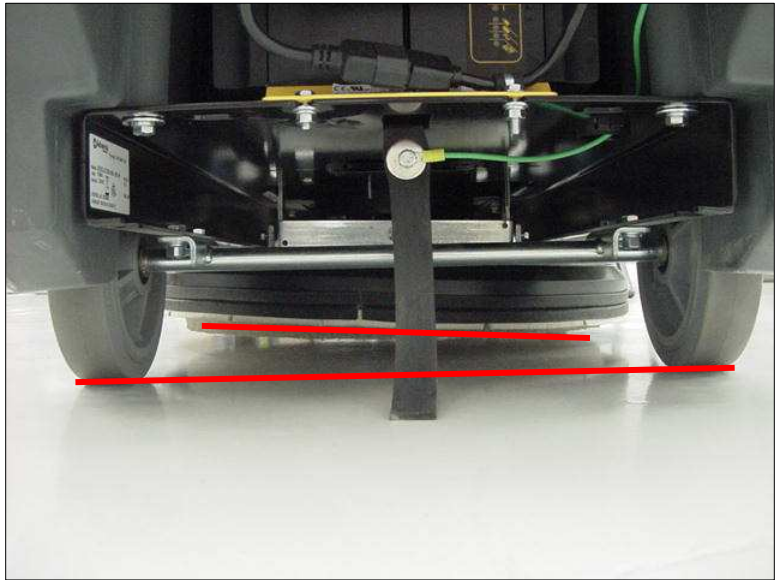

Figure 1 – Nominal Pad Tilt Angle (rear view)
1. See Figure 1. Check the angle of the pad relative to the floor surface.
- If the pad is tipped down toward the right-hand side of the machine at the approximate angle shown in Figure 1, skip to the **To Measure the Pad Motor Current** section.